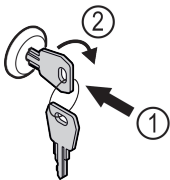

Fig. 190 Example illustration
- ▶ Insert key Fig. 190 (1).
- ▶ Turn key clockwise by 90° Fig. 190 (2).